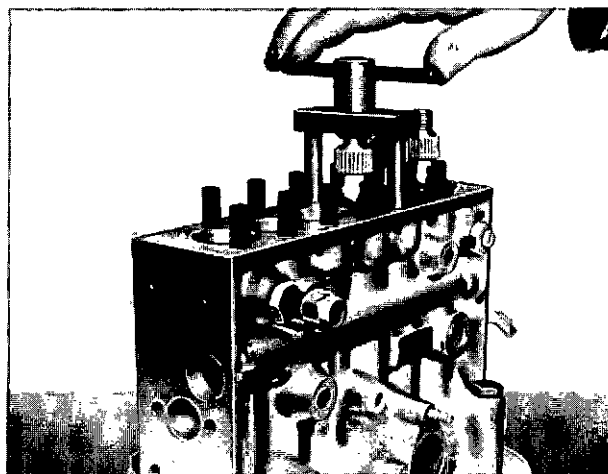
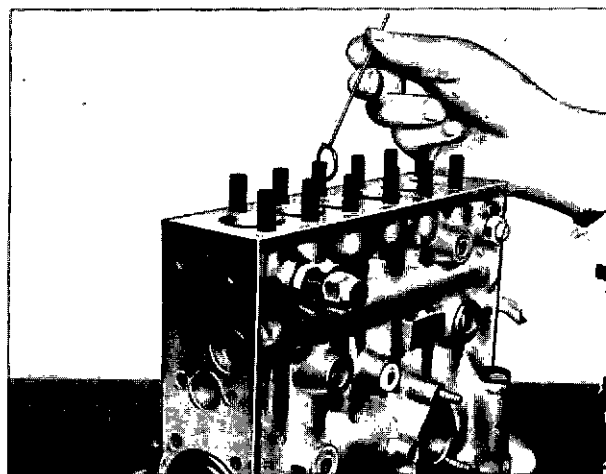

Fig. 14 Extracting delivery valve.
Fig. 15 Removing packings from housing.
15. Turn pump upright and remove the top cover. Unscrew the nuts securing the delivery valves and remove their washers. Extract the delivery valves, using tool 1 688 110 026 (fig. 14), ensuring that each assembly is stored in the same compartment as its associated components removed in Operation 11. Remove any packings which may have remained in the housing (fig. 15).